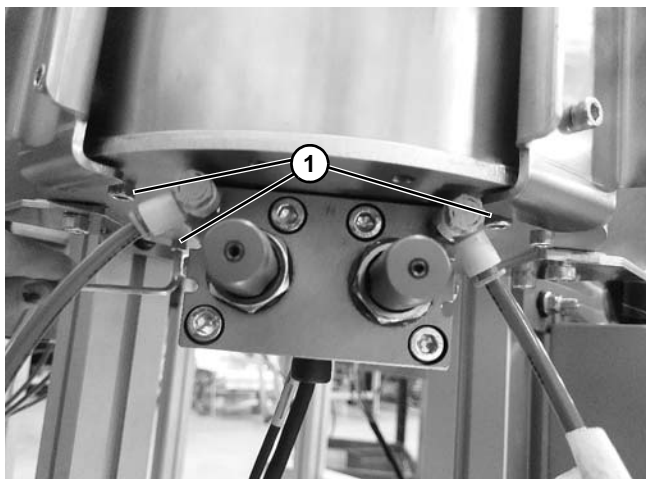

Figure 132
2. Remove three screws (Figure 132, item 1) from bottom of turn and transfer unit that secure one half of the guard.